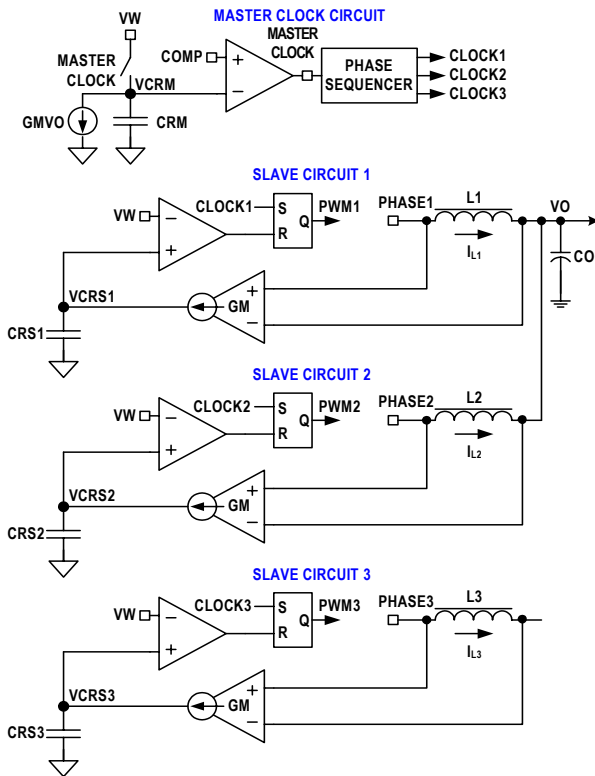
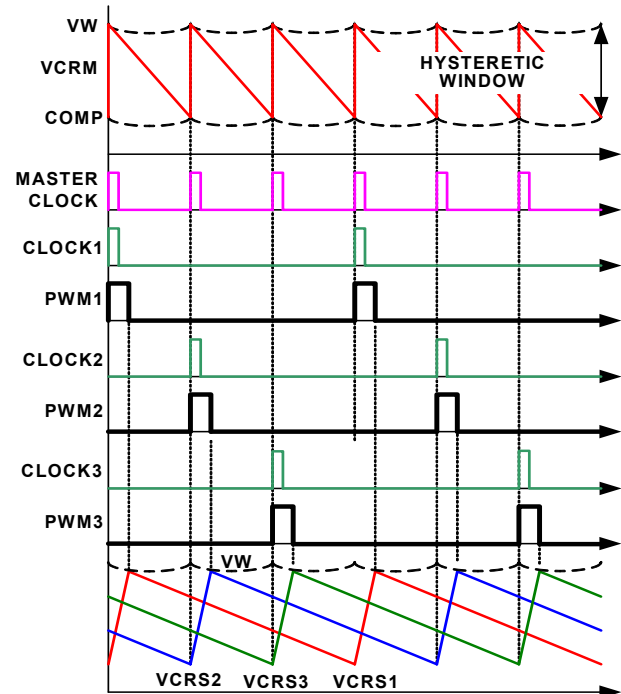

FIGURE 7. R3™ MODULATOR CIRCUIT
FIGURE 8. R3™ MODULATOR OPERATION PRINCIPLES IN STEADY STATE
The ISL6277A is a multiphase regulator implementing two voltage regulators, CORE VR and Northbridge (NB) VR, on one chip controlled by AMD's™ SVI2™ protocol. The CORE VR can be programmed for 1-, 2- or 3-phase operation. The Northbridge VR can be configured for 1- or 2-phase operation. Both regulators use the Intersil patented R3™ (Robust Ripple Regulator) modulator. The R3™ modulator combines the best features of fixed frequency PWM and hysteretic PWM while eliminating many of their shortcomings. Figure 7 conceptually shows the multiphase R3™ modulator circuit, and Figure 8 shows the operation principles.